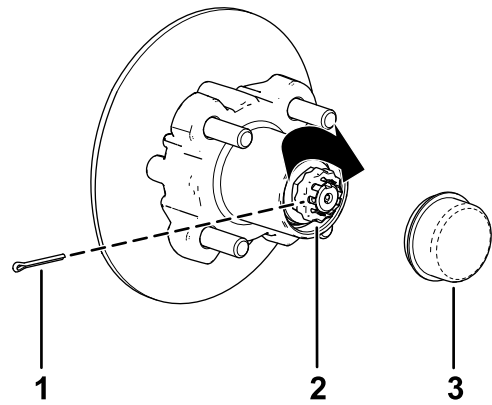

Figure 37
8. Install the retainer over the nut and check the alignment of the slot in the retainer and the hole in the spindle for the cotter pin (Figure 37).
9. Install the cotter pin and bend each leg around the retainer (Figure 37).
10. Install the dust cap onto the hub (Figure 37).